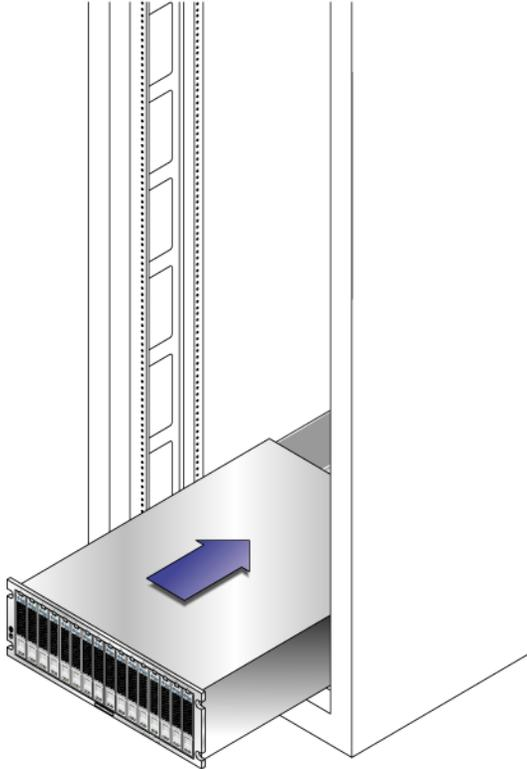

FIGURE 2-18 Sliding the Tray Into the Cabinet
2. Carefully slide the tray into the cabinet until the front flanges of the tray touch the vertical face of the cabinet (FIGURE 2-18).